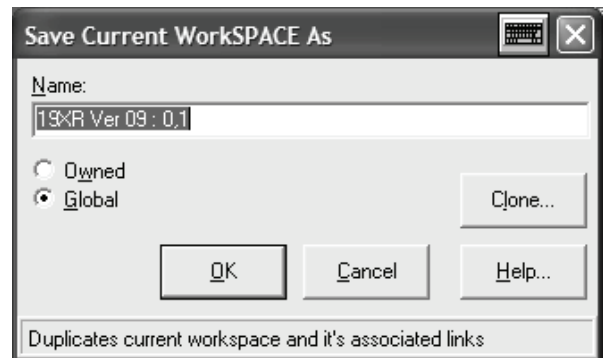

Fig. 20 — Save Workspace Name
20. The “Save Current WorkSPACE As” prompt box is displayed. Input the filename of your local chiller default screen. Then press the “Clone” button (Fig. 20).